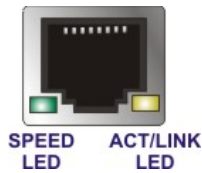

Figure 3-22: Ethernet Connector
- CN Location:** See **Figure 3-22**